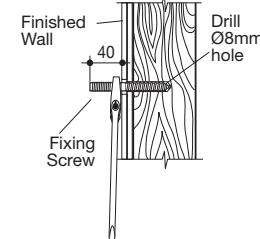

Fig. 2
- 3- Insert expansion fasteners into the drilled holes in masonry wall. Screw fixing screws into the wall using the flats located on the screws section of the stud and spanner as shown in **Fig. 2**.